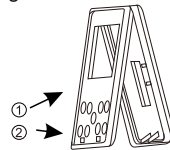

Fig.4
4. After connecting the connecting wire to the main body of the wire controller, as shown in Fig. 4, install main body part according to the following steps: